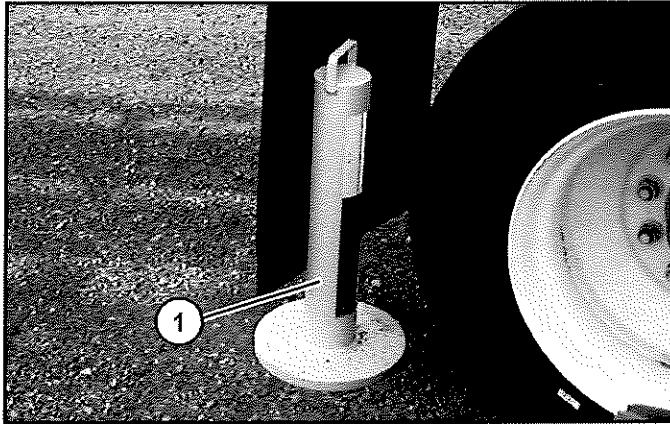

Figure 33
1. The radial reference post (Item 1) (Figure 33) is located on the undercarriage of the conveyor for transportation. Unhook and remove.